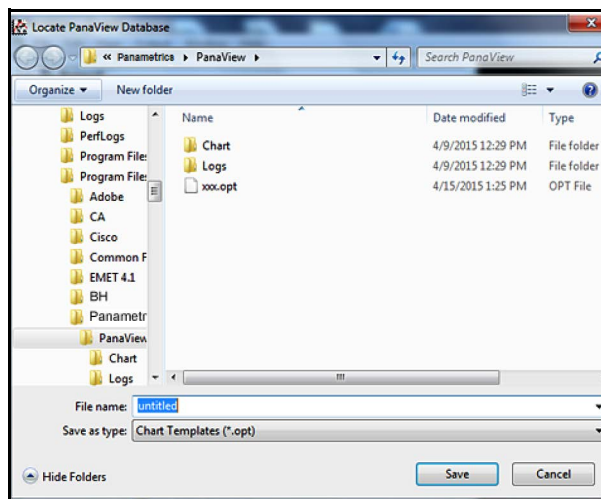

Figure 57: The Save Output Template Dialog Box
- Click the “Save Output Template” option to save the current graph properties and parameters as a template for future graphs. When the dialog box in Figure 57 below opens, enter a name for the chart (graph) template file and click the **[Save]** button to save the file as: